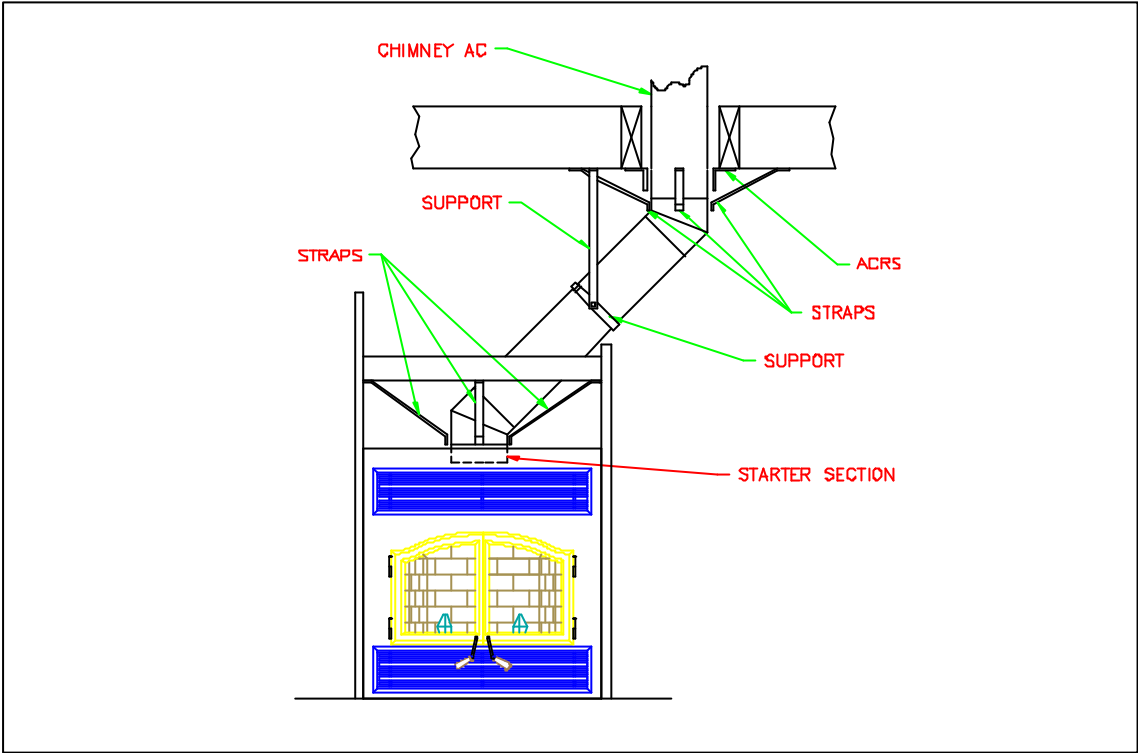

Figure 31
1. Install the first elbow. Turn it in the required direction. To lock it in place, turn 1/8 of a turn. Fasten the straps attached to the elbow to the surrounding frame , using nails or drywall screws (figure 31).